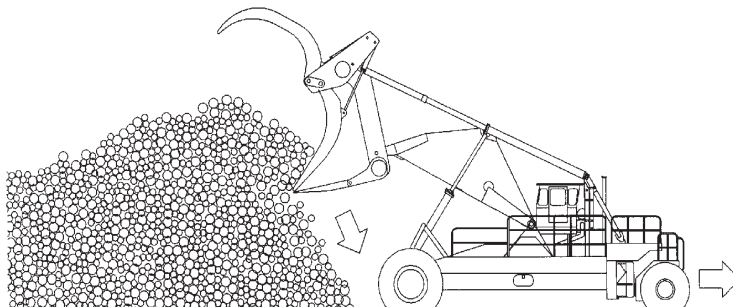

Fig. 5-16
- When the required decking height is reached, push the load off with the kickoff arms and simultaneously lower the carriage and back away slowly. Keep the tines as close to the pile as possible to prevent logs from rolling down in front of the drive tires. See Fig. 5-16.